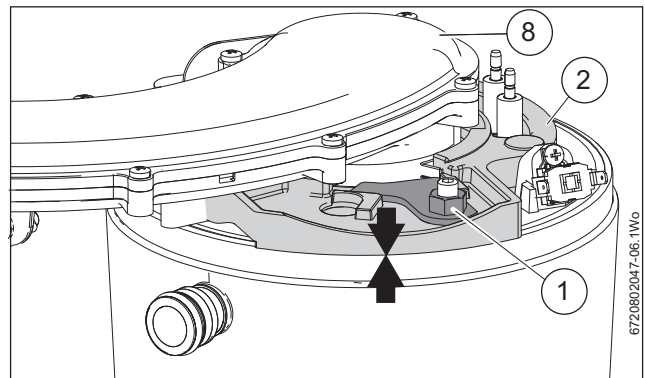

Fig. 104 Clamping plate secured
- ▶ Tighten the nut on the retaining plate assembly [1] until the underside face of the clamping plate mates with the top of the heat exchanger as indicated by the two arrows in figure 104